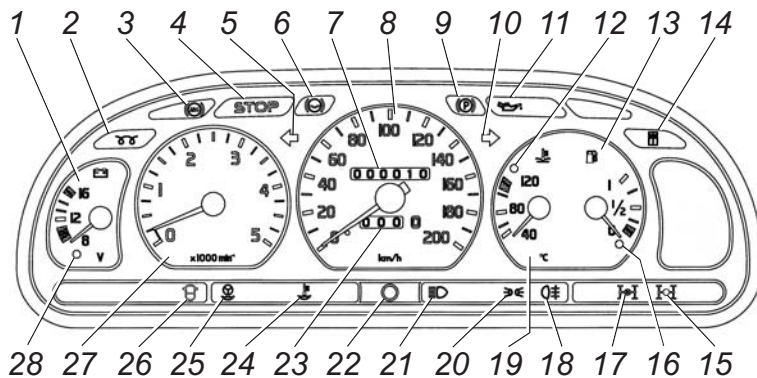

Fig. 4.15. Instrument cluster
*Positions of instruments on the vehicles with Sofim 8140.43C engine are given in Fig. 4.15.*